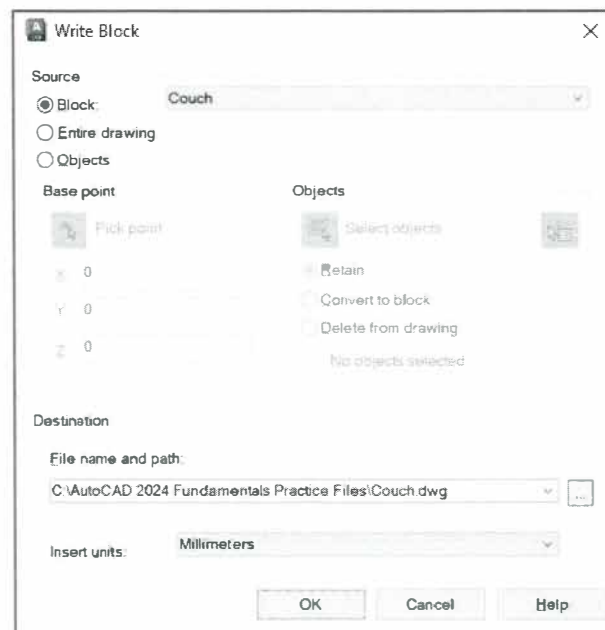

Figure 5–9
3. In the *Destination* area, use ... to set the path to your practice folder and the filename to **Couch**, as shown in Figure 5–9. The *Insert units* should be set to **Millimeters**. Click **OK** to create the new drawing file.